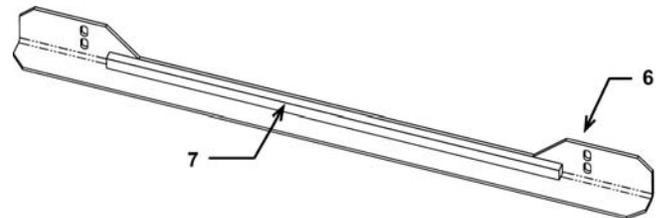

Figure 2 Rear Support Bracket and Foam
- ❶ Place one side bracket (2) on each side of the PPC™. Position each bracket with the front panel attachment flange (flange with three holes) facing the front of the PPC.
- ❷ Attach the front panel (1) to the side brackets (2) using six M4 flat washers (5), six M4 split lock washers (4) and six M4 hex nuts (3). Recommended torque is 3 Nm.
- ❸ Remove adhesive backing from foam strip (7). Adhere the foam strip to the rear support bracket (6), centering the foam as shown in figure 2.
- ❹ Attach the rear support bracket (6) to the side brackets (2) using four M4 flat washers (5), four M4 split lock washers (4) and four M4 hex nuts (3). Recommended torque is 3 Nm.
- ❺ For adequate support of the PPC, the rear support bracket (6) shall be supported on the side rails of the rack system or by other means.